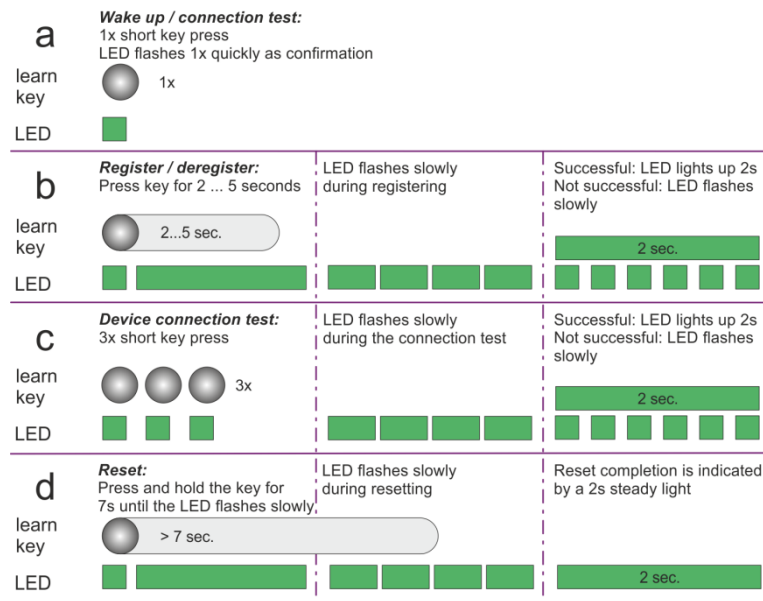

Fig.: 55: Functions of the learn key
Press the learn key (5) once (See also Fig. 55, functions of the learn key, line d).